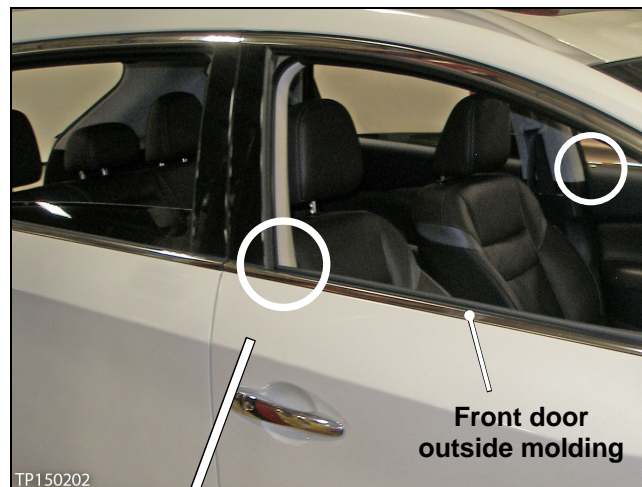

Figure 1A
1. Inspect the outside door molding of the incident door(s). See Figure 1A, 1B, and 1C.